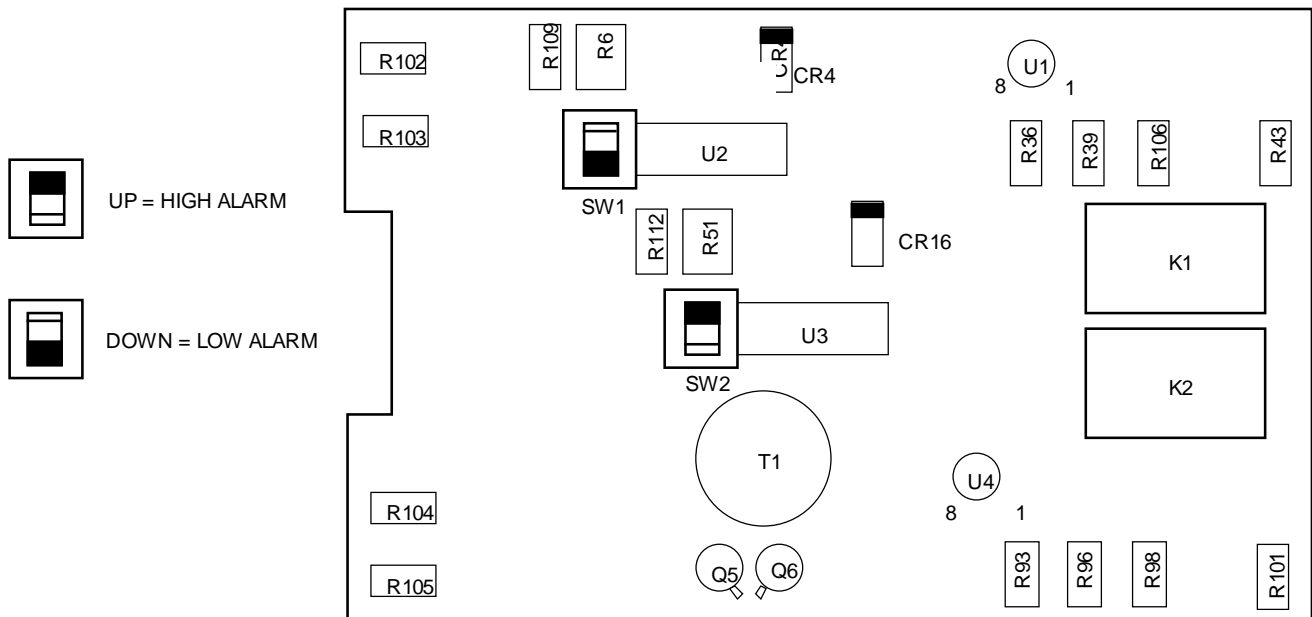

Figure 6. Switch Positions
5. Verify that switches SW1 and SW2 (dual alarm) are set for a high or low alarm, as specified. See figure 6.